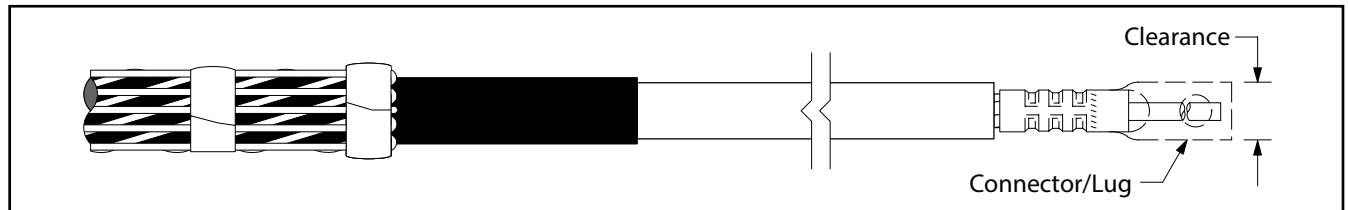

Figure 9
- 7.1 Check to insure 3M Cold Shrink QT-III Silicone Rubber Termination assembly fits over the selected lug or connector BEFORE installing the lug or connector.** If lug or connector (Figure 9) will not fit through the termination core, clean the insulation (per Step 8.0) and slide termination on cable before installing lug or connector. **DO NOT REMOVE CORE AT THIS TIME.**